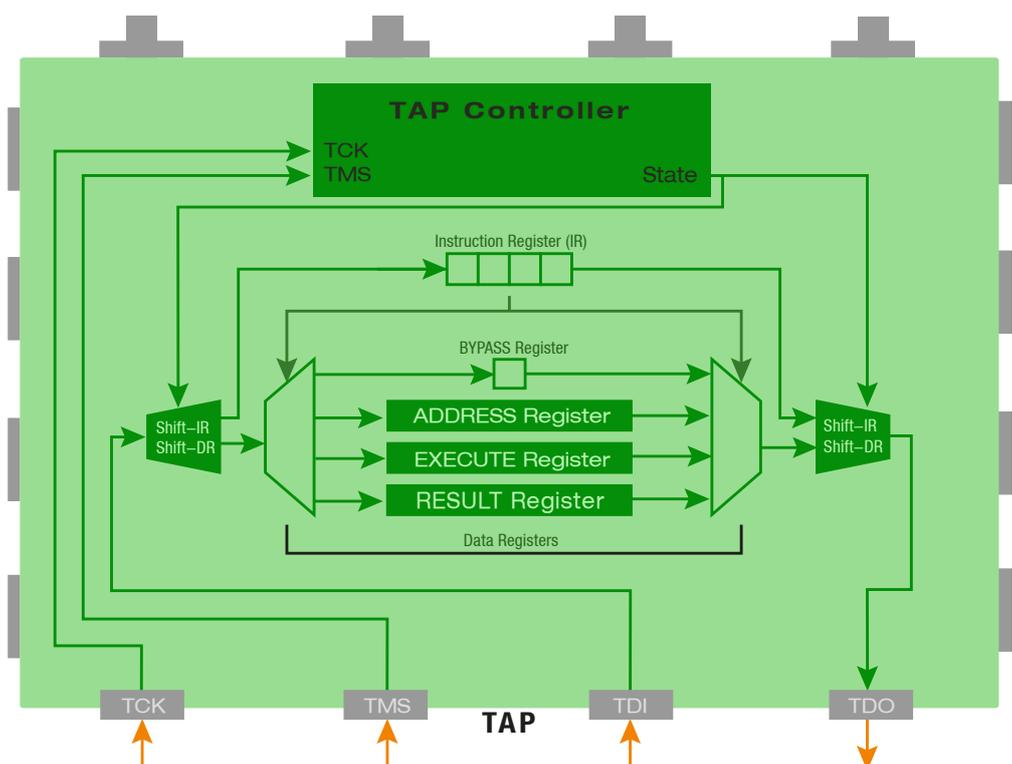

Figure 1:
For debug purposes, each Integrated Circuit (IC) implements a JTAG Test Access Port (TAP for short). The TAP is used to access several shift registers: one Instruction Register and several Data Registers. One of these Data Registers must be used to implement a BYPASS Register. The contents of the Instruction Register are used to determine which of the available Data Registers is to be used. The JTAG debugger feeds values into these registers via a protocol that is transmitted over a set of pins (see figure 1).